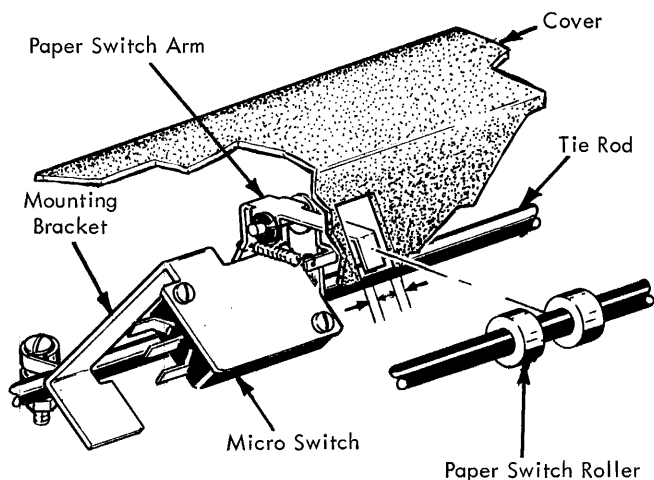

FIGURE 264.1 Paper Switch
- a. The paper switch arm should be centered in the cover slot (Fig. 264.1).